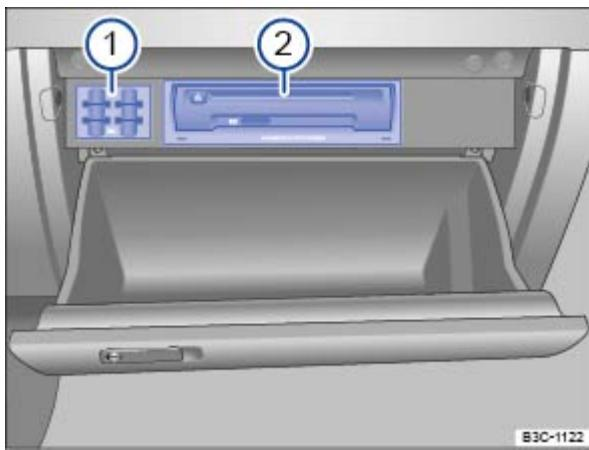

Fig. 147 Inside the glove compartment.
Key to ⇒ Fig. 147 :
Vehicles equipped with an Infotainment system may have a CD player, SD card readers, or other Infotainment System accessories ⇒ Fig. 147② in the glove compartment. See ,Chapter/Infotainment System for further information.